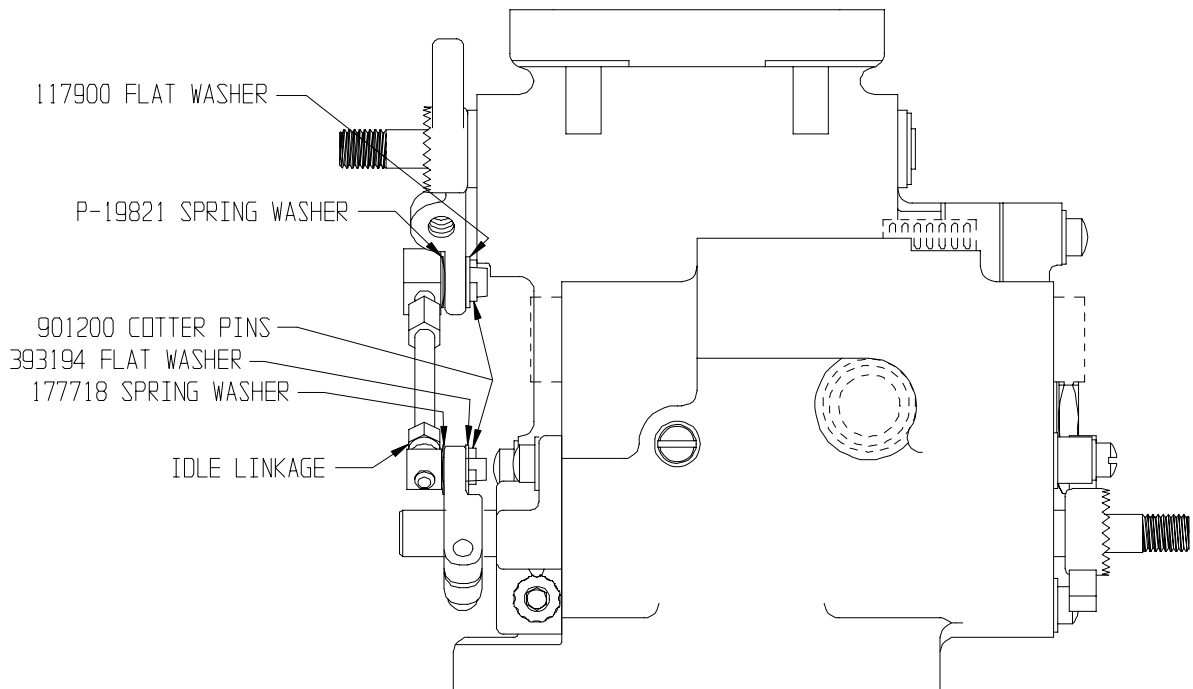

Figure 1 RSA-5AD2
- C. INSPECTION PROCEDURE:** If your aircraft has a 2576540-4 or 2576540-5 fuel injection servo and if the throttle movement is excessively stiff or rough (with the throttle friction off), inspect the idle lever assembly on the RSA-5AD2 fuel control servo for excessive friction. Disconnect the idle mixture linkage at the idle lever arm and throttle arm by removing the cotter pins; be sure to save the flat washers and spring washers for reassembly (see Figure 1). Rotate the idle lever by hand; if the lever action catches, grabs or the force measured directly on the linkage using a linear scale exceeds 4 lbs the servo should be reworked. Insure that measurements are taken perpendicular to the arm of the lever to obtain an accurate reading. The servo should be removed and replaced with a 2576540-7 fuel injection servo.